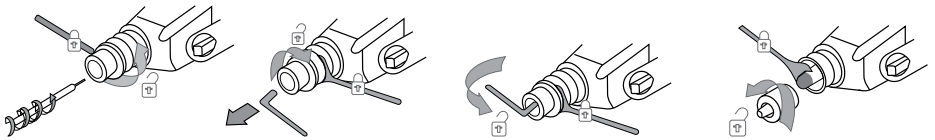

Fig 6
- To dismount the gear rim chuck, carry out the operations in consecutive stages as it is shown in figure 6.